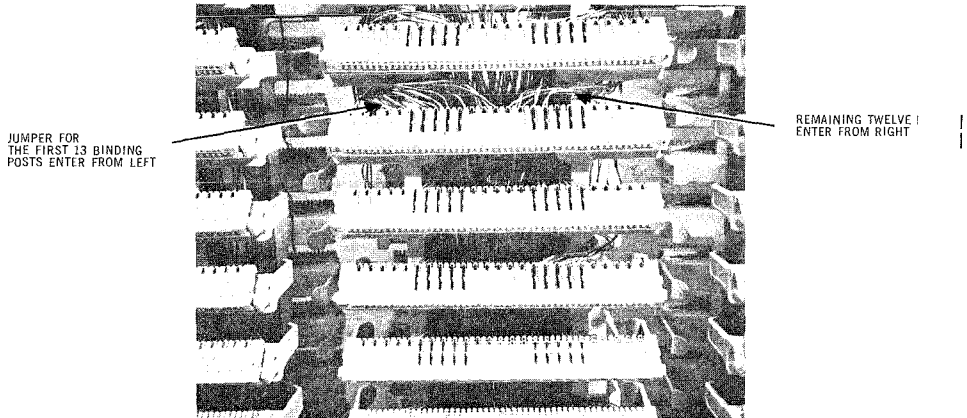

Fig. 4
3.04 To avoid the cross-over of jumper wires on the connector module, jumpers for the first thirteen binding posts on a module shall enter from the left side and the remaining twelve from the right. (See Fig. 4.)